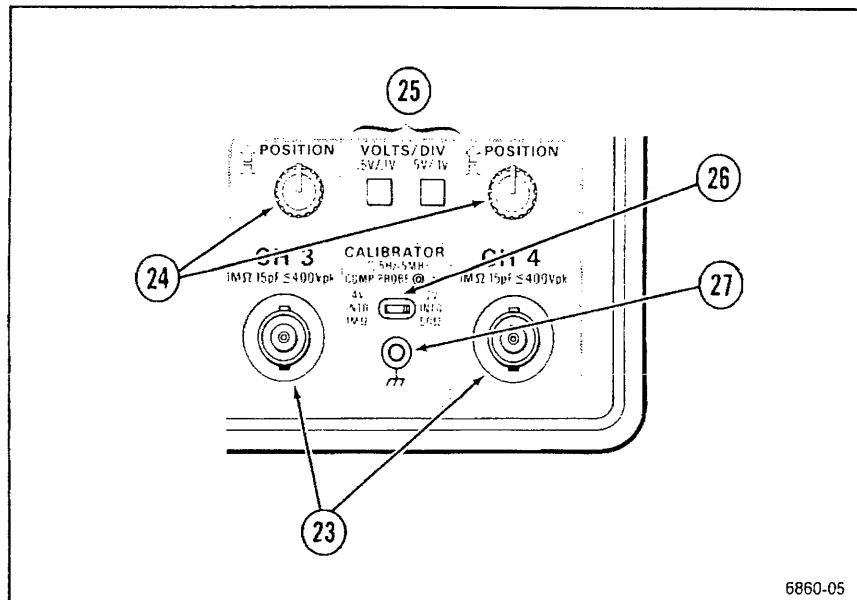

Figure 5-4. CH 3 and CH 4 controls and connectors and CALIBRATOR output.
- (22) **CH 1 OR X and CH 2** Conduct external signals to the Channel 1 and Channel 2 vertical inputs. A signal applied to the CH 1 OR X connector provides the horizontal deflection for an X-Y display. Each connector includes a coding-ring contact for Tektronix-coded probes.
Refer to Figure 5-4 for the location of items 23 through 27.
- (23) **CH 3 and CH 4 Input Connectors** Conduct external signals to the Channel 3 and Channel 4 vertical inputs. Each connector includes a coding-ring contact for Tektronix-coded probes. Input coupling from these connectors is DC only. Channel 3 and Channel 4 are most useful as digital-signal and trigger-signal input channels, given their limited choice of deflection factors.
- (24) **POSITION Controls** Set vertical position of the Channel 3 and Channel 4 signal displays. The controls operate identically to the Channel 2 POSITION control, but with less range on their associated traces.
- (25) **VOLTS/DIV Switches** Toggle between 0.1 V and 0.5 V per division deflection factors for Channel 3 and Channel 4.
- (26) **CALIBRATOR Connector** Provides a 0.4-V p-p square-wave into a  $1\text{ M}\Omega$  load, 0.2-V p-p into a  $50\ \Omega$  dc-coupled load, or 8-mA p-p into a short circuit. The signal is useful for checking sweeps, delay-times, and vertical deflection accuracies, as well as compensating voltage probes and checking the accuracy of current probes. The repetition rate of the square wave changes with A-Sweep SEC/DIV changes. From 100 ms per division to 100 ns per division, the A Sweep of the instrument supplying the CALIBRATOR signal displays five cycles per 10 divisions. At 100 ms per division and slower, the CALIBRATOR frequency is 5 Hz; at 100 ns per division and faster, the frequency is 5 MHz. The signal amplitude at 5 MHz is at least 50% of the signal amplitude obtained when the sweep speed is set to 1 ms per division.